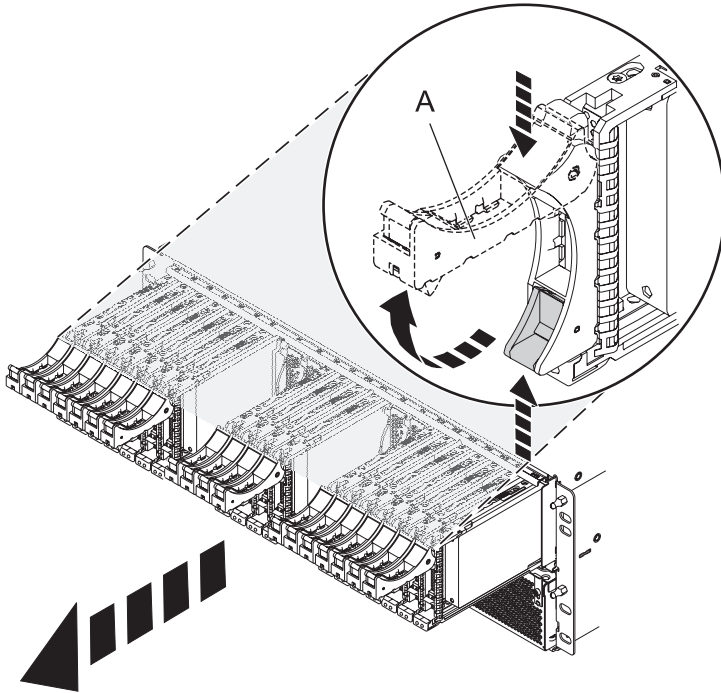

Figure 64. Removing the drives from the backplane
4. Remove the drives and fillers as shown in Figure 64.
- a. Squeeze the latch of the drive and pull the handle (A) toward you to release the drive.